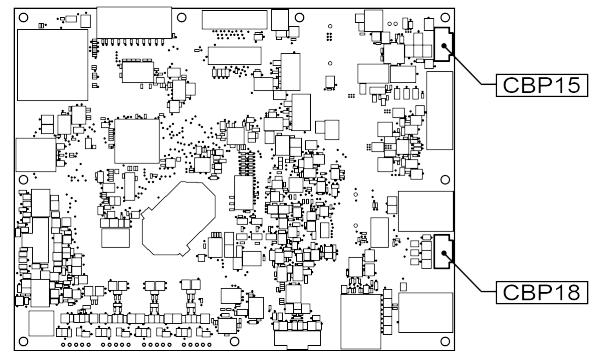

Figure 13
10. Using the harness included with the printer, connect to the control board as shown in Figure 13. The wires are marked with their respective connector labels.